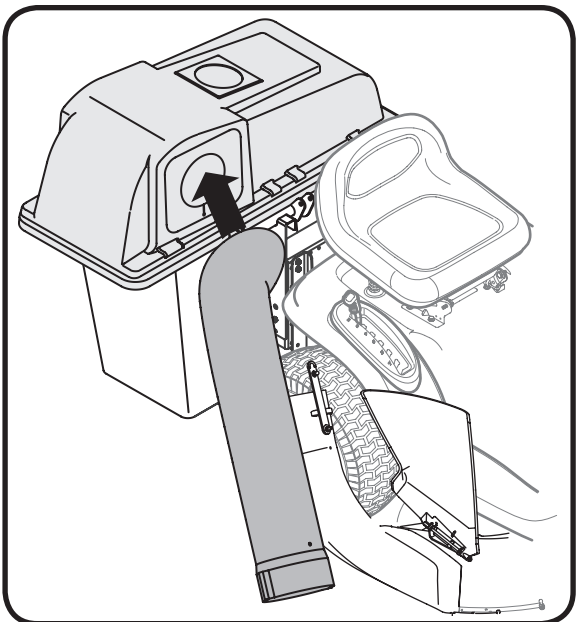

Figure 26
8. Insert the curved end of chute tube into the hole in the grass bag cover. See Figure 26.